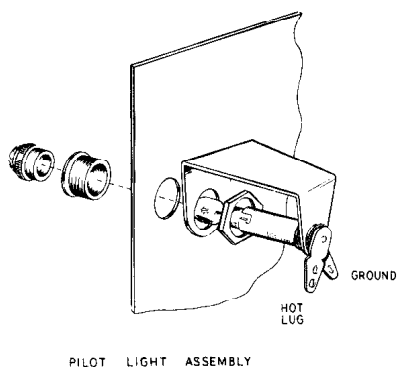

Figure 7
- () Mount the pilot light in the upper right panel hole, as viewed from the front. See Figure 7 for method of mounting.